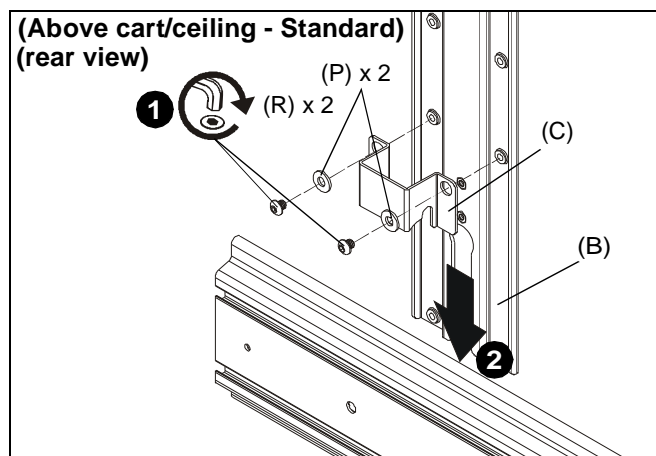

Figure 25
- Use two 1/4-20 x 1/4" button head cap screws (R) and two large washers (P) to secure support bracket (C) to main bracket (B). (See Figure 25)
- Slide main bracket (B) onto front of cart/ceiling mount head assembly until support bracket (C) rests on top of head assembly. (See Figure 25)